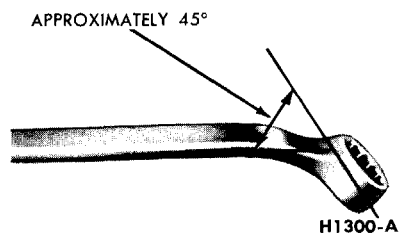

FIG. 6—Brake Bleeder Wrench
right rear brake wheel cylinder (Fig. 6). Attach a rubber drain tube to the bleeder fitting. **The end of the tube should fit snugly around the bleeder fitting.**
3. Position a $\frac{3}{8}$ -inch box wrench on the bleeder fitting on the right rear brake wheel cylinder (Fig. 6). Attach a rubber drain tube to the bleeder fitting. **The end of the tube should fit snugly around the bleeder fitting.**